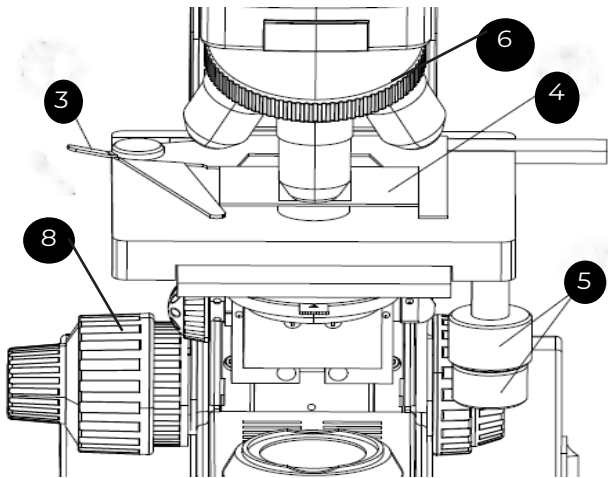

Fig. 7
1. Open slide holder by pushing lever **3** towards the rear of the scope (See Fig. 7).
2. Insert slide **4** into clips and slowly release lever **3** (See Fig. 7).
3. Use the X and Y-axis stage control knobs **5** to move the slide to the desired location (See Fig. 7).
1. Rotate the objective nosepiece **6** until the 4X objective is in the light path (See Fig. 7).
2. Adjust the stage limit screw **7** to the highest position, and rotate the coarse focusing knob **8** until the image appears. (See Fig. 7)
3. Rotate the fine focusing knob **9** until the image is in clear focus (See Fig. 7).